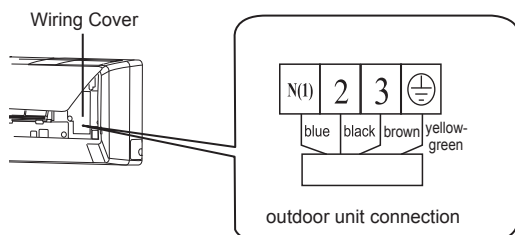

Fig.6
3. Connect and fix the power connection cord to the terminal board. (As shown in Fig.6)